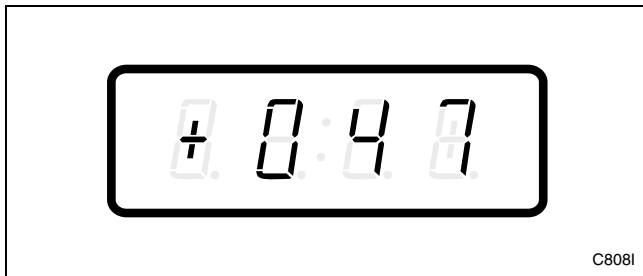

Figure 169
3. Press the LOW TEMP (+) or the NO HEAT (-) keypad to scroll through the programmable options until “+047” appears in the VFD. Refer to *Figure 169*.